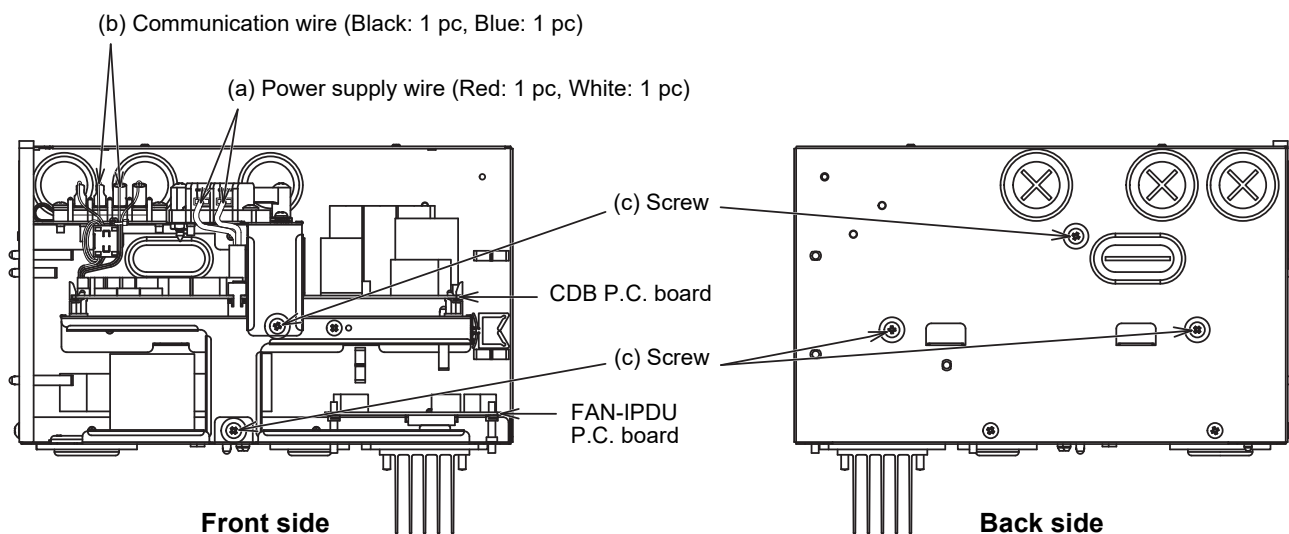

Fig.2 E-BOX (Side view)
3. Disconnect power supply wires (a) and communication wires (b) in Fig.2 from CDB P.C. board. (\*1)
(For the location of the CDB P.C. board, refer to Fig.2.)
4. Remove screws (c) in Fig.2, and remove terminal block mounting plate.
6. Remove screws (d) in Fig.2, and remove CDB P.C. board mounting plate.
(For the location of the FAN-IPDU P.C. board, refer to Fig.2.)
6. Fix the CDB P.C. board mounting plate to E-BOX by screw (d) in Fig.2.
8. Fix the terminal block mounting plate to E-BOX by screw (c) in Fig.2.
9. Connect power supply wires (a) and communication wires (b) in Fig.2 that was removed in step 10-1-1. 3.